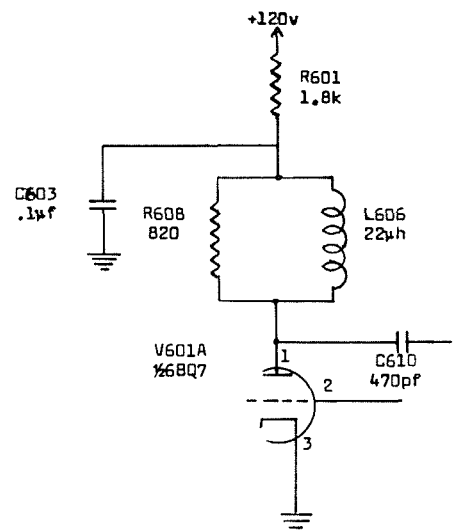

Figure 3. Type 524D/524AD Time-Mark Generator for serial numbers 1842 and below (partial schematic).
2. Refer to Figure 3. Decouple the 120 v plate supply of V601A by adding a 1.8 k, 1 w, 10% composition resistor (Tek no. 304-182) and a 0.1 μf, 500 v discap (Tek no. 283-008) as shown in Figure 3.